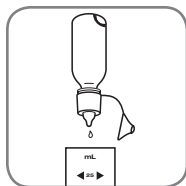

Figure 1
1. Add 5 drops of Ozone Activator solution to the sample cup. **See Fig 1.**